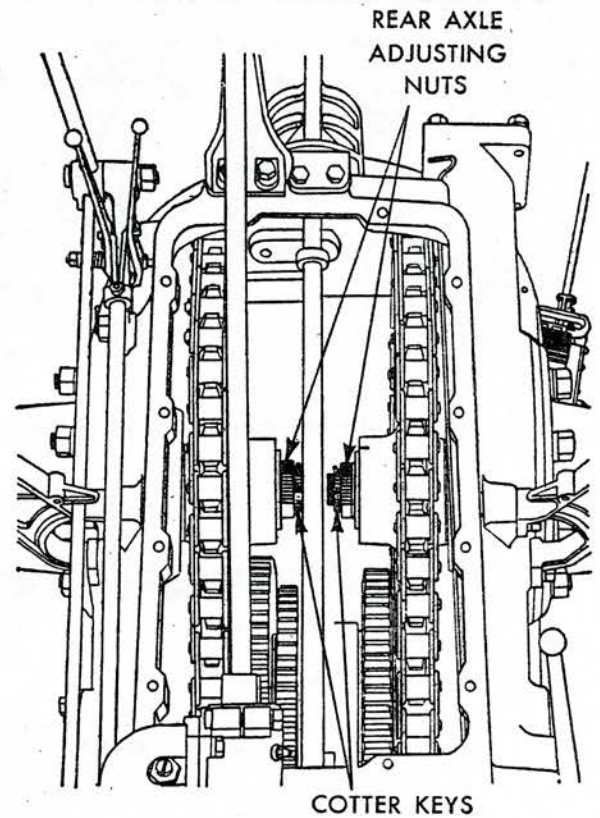

Fig. 42 Adjusting rear axle bearings. Model D
**REAR AXLE BEARINGS**—Rear axles are carried on taper roller bearings which should be checked and kept adjusted as follows: Raise the wheels to relieve the bearings of all load. Remove the rear transmission case cover. Pull the cotter pin from the rear axle shaft, turn the adjusting nut tight with a 15 to 20 inch wrench and insert the cotter pin, Fig. 42. Wheels should turn freely but without end play.